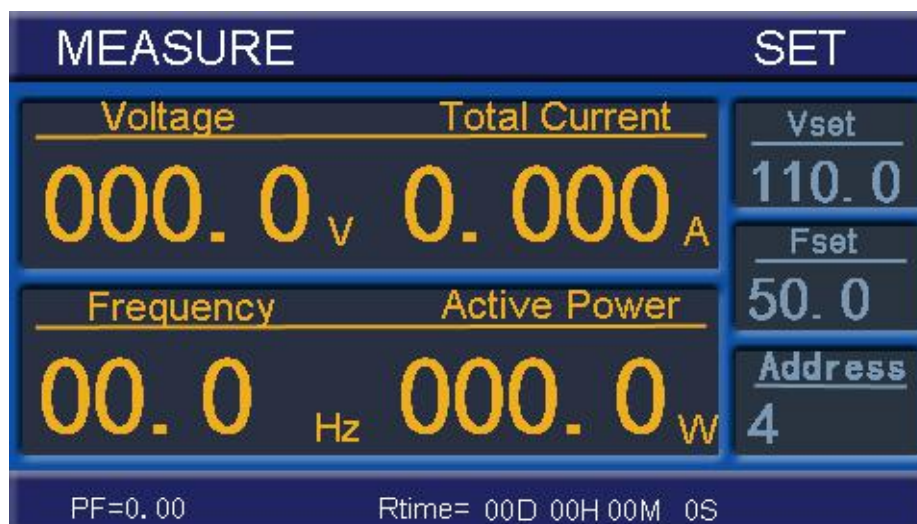

Fig.3 Power standby state
Plug the power source and switch on all the operating switches (1) of the power source, input *Switch Ligh* enters into standby state after soft-start delay of about 10 seconds (as shown in Fig. 3).